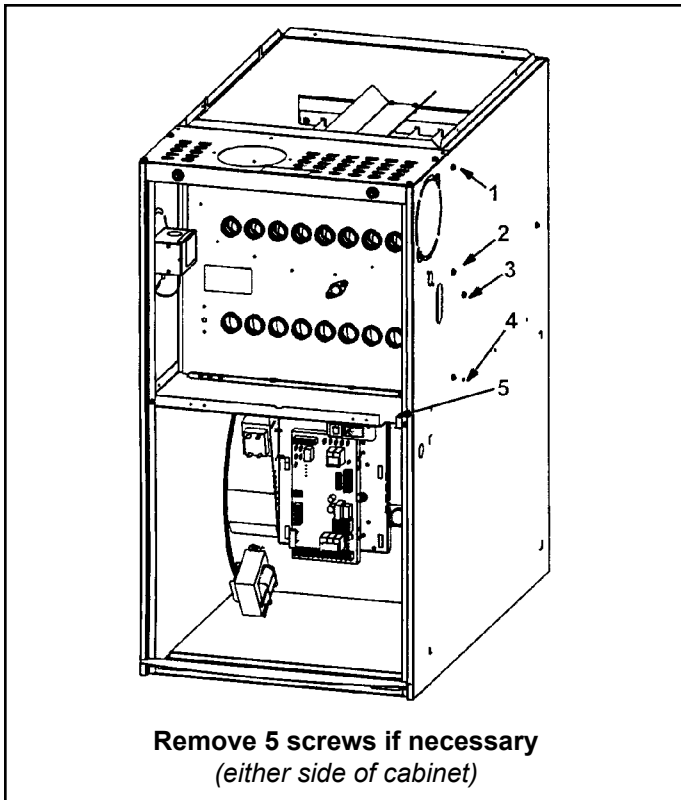

Figure 50.
2. To clean burners, run a vacuum cleaner with a soft brush attachment over the face of burners. Visually inspect inside the burners and crossovers for any blockage caused by foreign matter. Remove any blockage. Figure 50 shows burner detail.